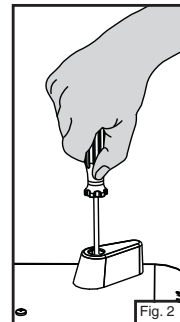

Fig. 2
- Assemble feet to grill. Attach each foot to grill using one screw. (Fig. 2) NOTE: Screwdriver is not provided.